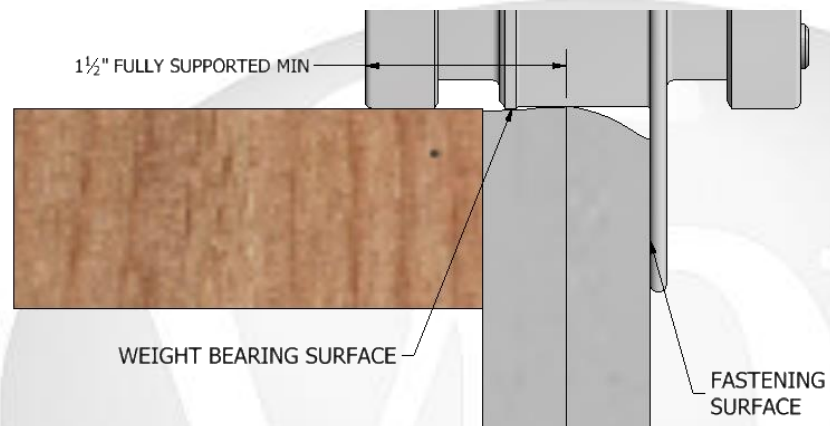

Figure 3: Acceptable Condition (minimum supported area)
- C) The window's sill must be fully supported along the sill's weight bearing surface, starting from the inside edge of the frame. (See Figure 3)